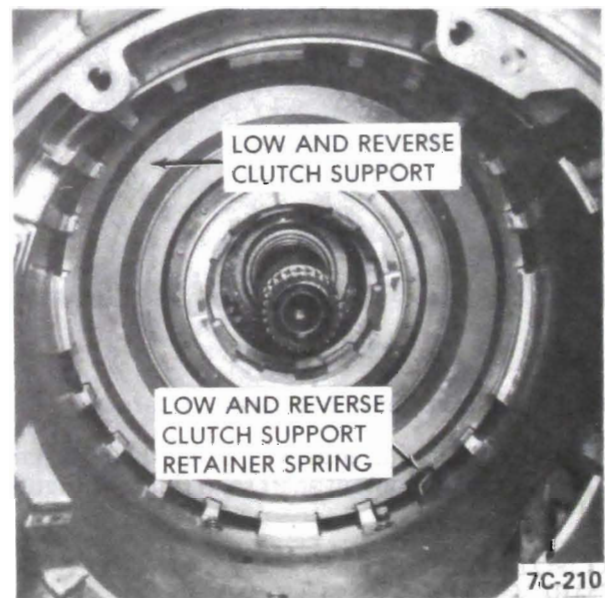

Figure 7C-146
4. Install low and reverse clutch support to case retaining ring. See Figure 7C-145.